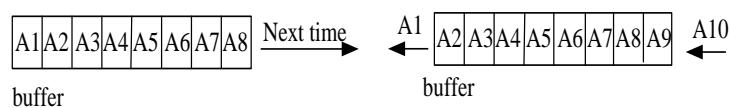

Figure 3-67
2. Setting the **READING AVERAGE TIME** = 8 and **AVERAGE METHOD**:**MOVING**, the next sampling removes the oldest sample in the buffer and saves the new sample, then averages them as shown in Figure 3-67.